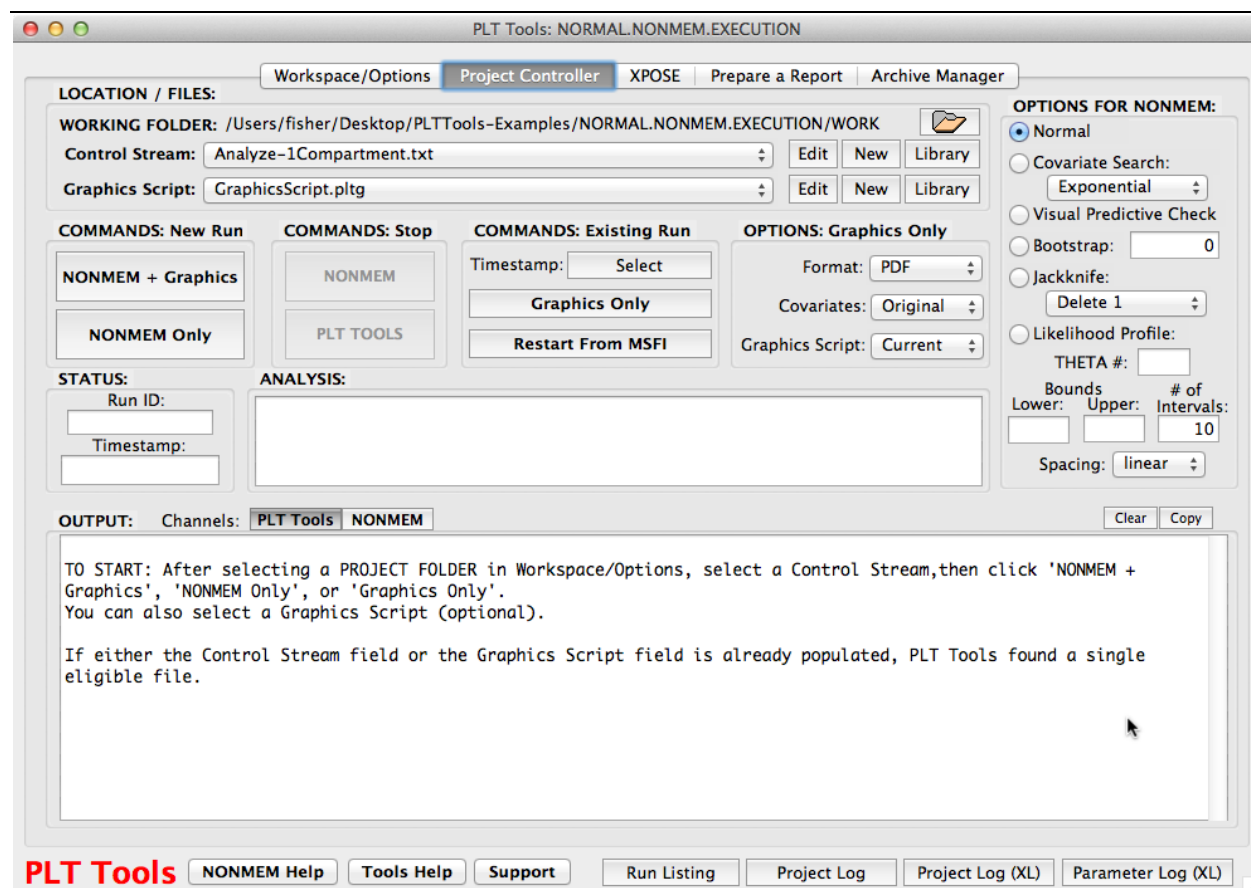

Figure 15. The Projector Controller tab is displayed.
4. Move to the Project Controller tab (Figure 15).